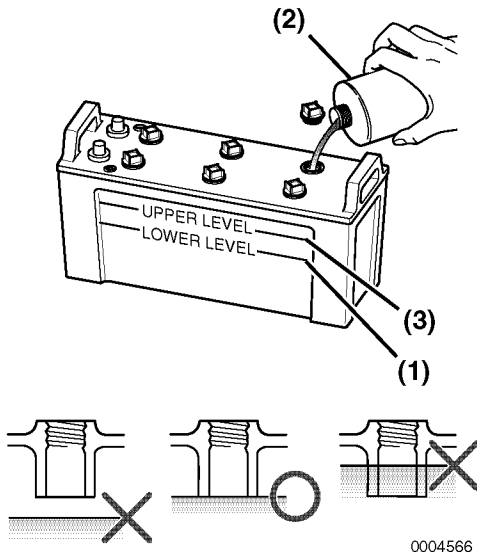

Figure 8
4. If the level is lower than the minimum, fill level (**Figure 8, (1)**), fill with distilled water (**Figure 8, (2)**) (available in the grocery store) up to the upper limit (**Figure 8, (3)**) of the battery.